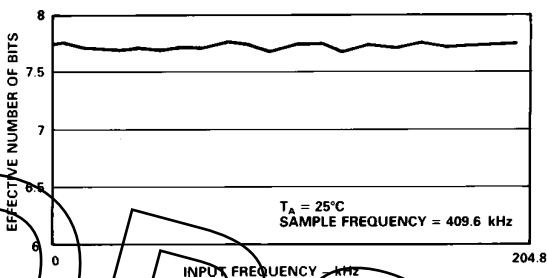

Figure 15. Effective Number of Bits vs. Frequency
This is for an ideal part with no differential or integral linearity errors. These errors will cause a degradation in SNR. By working backwards from the above equation, it is possible to get a measure of ADC performance expressed in effective number of bits (N). The effective number of bits is plotted versus frequency in Figure 15. The effective number of bits typically falls between 7.7 and 7.9, corresponding to SNR Figures 48.1 and 49.7 dB.